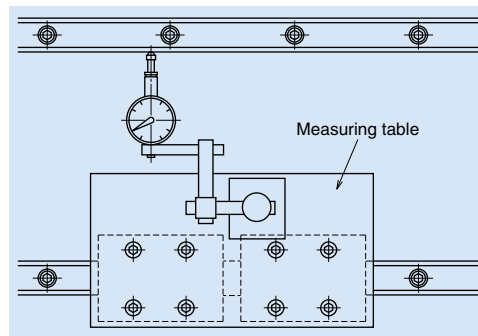

Fig. 10.15 Measuring parallelism
- [4] If there is no shoulder on the mounting surface of the machine base for the adjusting side rail: Secure a measuring table to the slides of the reference side rail (**Fig. 10.15**). Use this to adjust the parallelism of the adjusting side rail. Check parallelism of the adjusting side rail with a dial indicator from one end of the rail, tightening the bolts one by one.
The measuring table is more stable if secured to two slides, but one slides is sufficient. Parallelism between two rails can also be checked by the same method in **Fig. 10.15** when there is a shoulder on the surface where the adjusting side rail is installed.